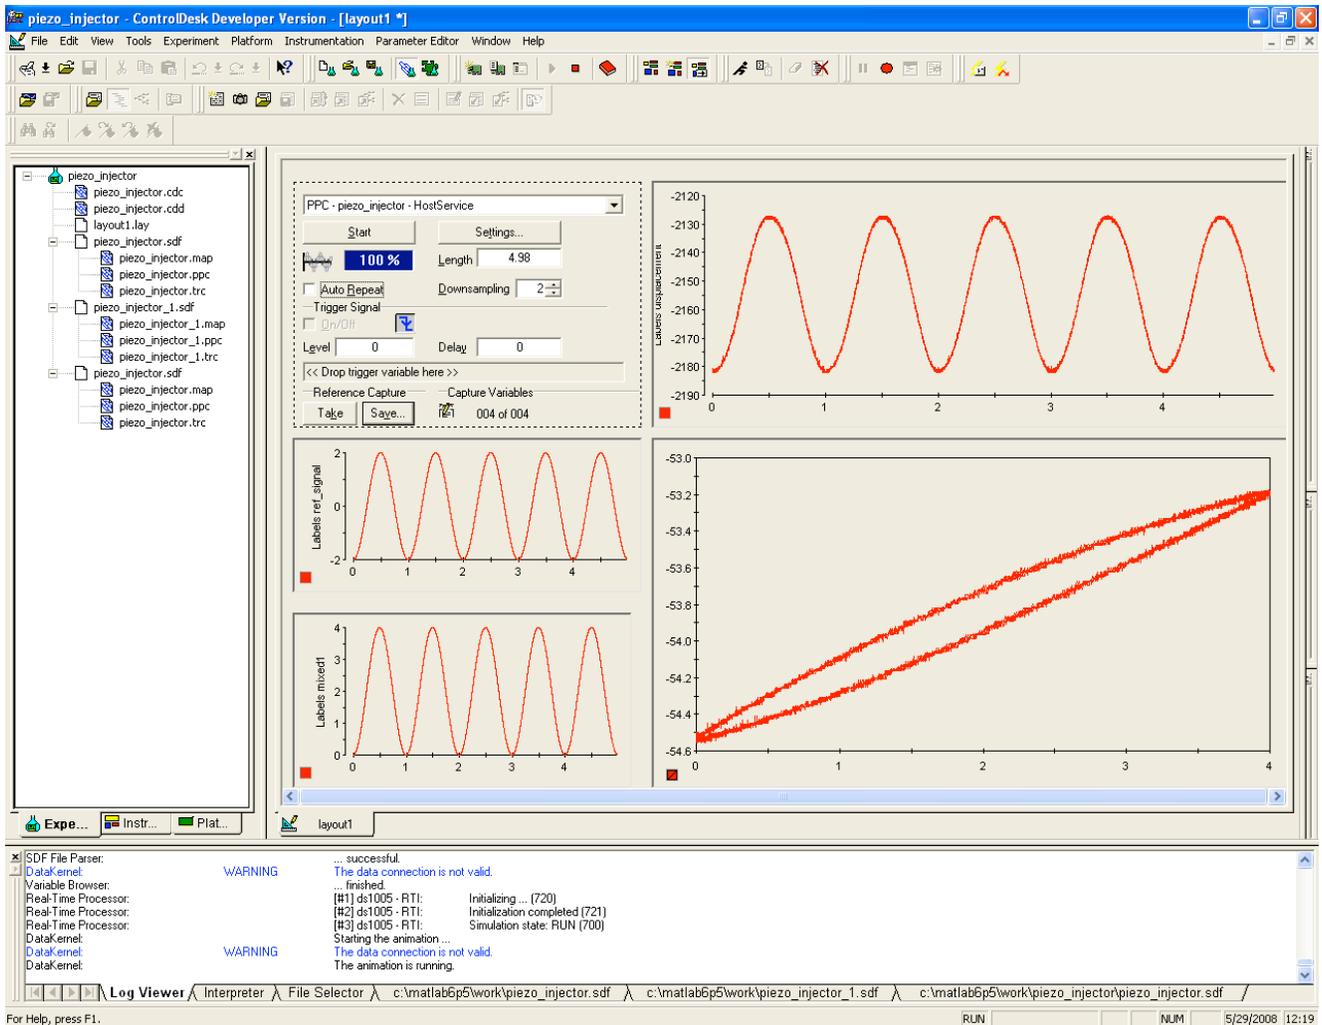

Figure 4-31: Screenshot of graph activity
- 5) Once the file has loaded, make any desired changes to the graphs and run by pressing F5. Depending on what types of graphs and data displays are used, one should see some activity in the graph windows. See Figure 4-31.